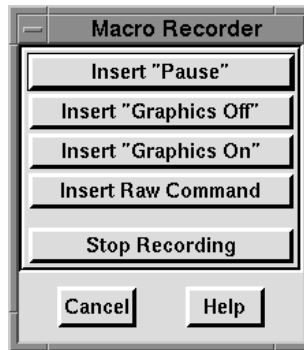

Figure 28-1. The Macro Recorder dialog.
3. Click OK to initiate the recording of the macro file. The Macro Recorder dialog now appears, as shown in Figure 28-1. This dialog must remain up during the recording session.